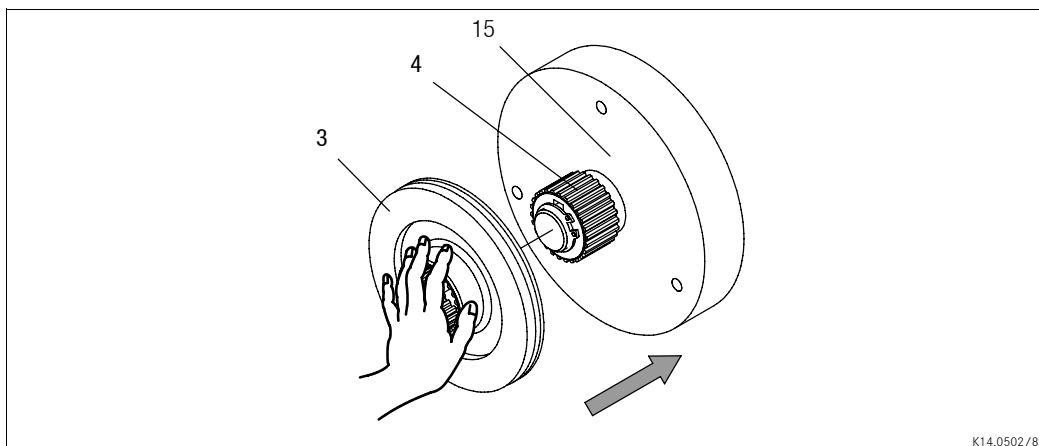

Fig. 6 Assembly of the rotor
1. Push the rotor (3) onto the hub (4) and check whether it can be moved by hand (Fig. 6).